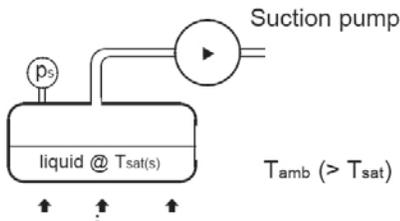

Figure 4: Refrigeration Cycle
The pressure (ps) is a function of how rapidly vapour can be removed through suction or formed through pressure. At equilibrium, the rate at which vapour is formed (determined by Q) equals the rate at which it is removed. Therefore, both the heat transfer rate into the liquid (Q) and the vapour removal rate (suction pump capacity) determines the pressure and hence Tsat(s) (Figure 4). This is governed by the following set of equations.